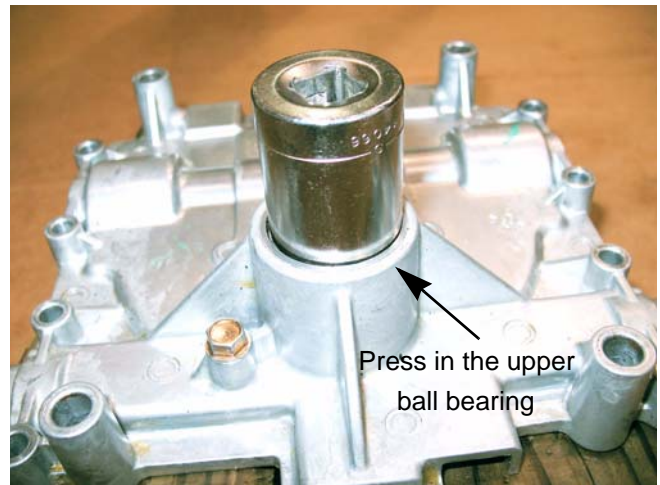

Figure 6.60
18. Press in the upper ball bearing into the upper housing. See Figure 6.60.